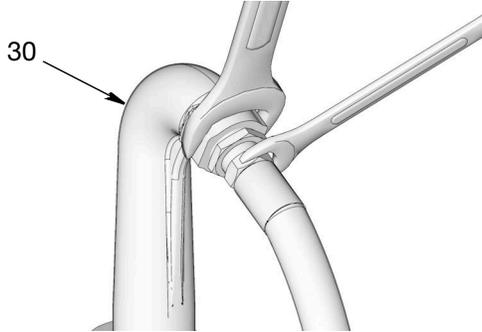

FIG. 9
- Attach the end of the hose to the outlet (30) using two wrenches on the flats, working in opposite directions, to securely tighten the hose to the outlet fitting (FIG. 9).